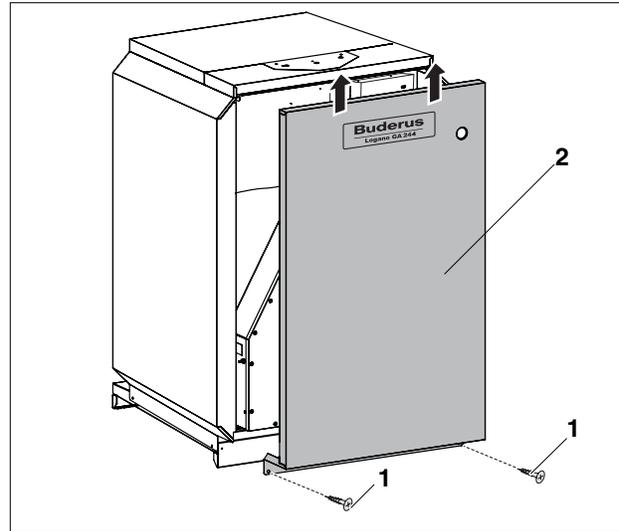

Fig. 22 Remove the boiler front access panel
4. Remove the screws from the boiler front access panel (Fig. 22, **Item. 1**) and remove the boiler front access panel (Fig. 22, **Item. 2**).